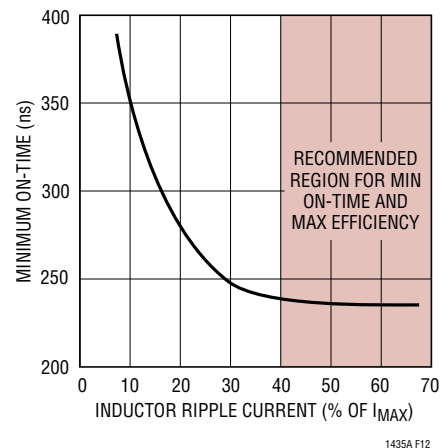

Figure 12. Minimum On-Time vs Inductor Ripple Current
The minimum on-time for the LTC1436A/LTC1437A in a properly configured application is less than 300ns but increases at low ripple current amplitudes (see Figure 12). If an application is expected to operate close to the minimum on-time limit, an inductor value must be chosen that is low enough to provide sufficient ripple amplitude to meet the minimum on-time requirement. To determine the proper value, use the following procedure:
2. Use Figure 12 to obtain the peak-to-peak inductor ripple current as a percentage of  $I_{MAX}$  necessary to achieve the calculated  $t_{ON(MIN)}$ .
3. Ripple amplitude  $\Delta I_{L(MIN)} = (\% \text{ from Figure 12})(I_{MAX})$  where  $I_{MAX} = 0.1/R_{SENSE}$ .
The  $\Delta I_L$  was previously calculated to be  $1.3\text{A}$ , which is  $43\%$  of  $I_{\text{MAX}}$ . From Figure 12, the LTC1436A/LTC1437A's minimum on-time at  $43\%$  ripple is about  $235\text{ns}$ . Therefore, the minimum on-time is sufficient and no cycle skipping will occur.